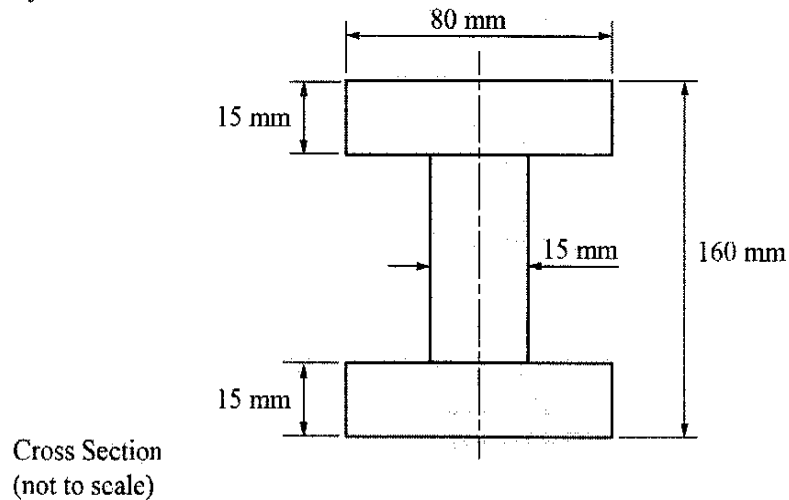

Fig Q4
4. An "I" section beam as shown in Fig Q4 is simply supported at both ends. It carries a uniformly distributed load of 6 kN/m along its entire length and has a concentrated load of 18 kN at mid-span. The safety coefficient (factor of safety) of the beam is limited to 4.